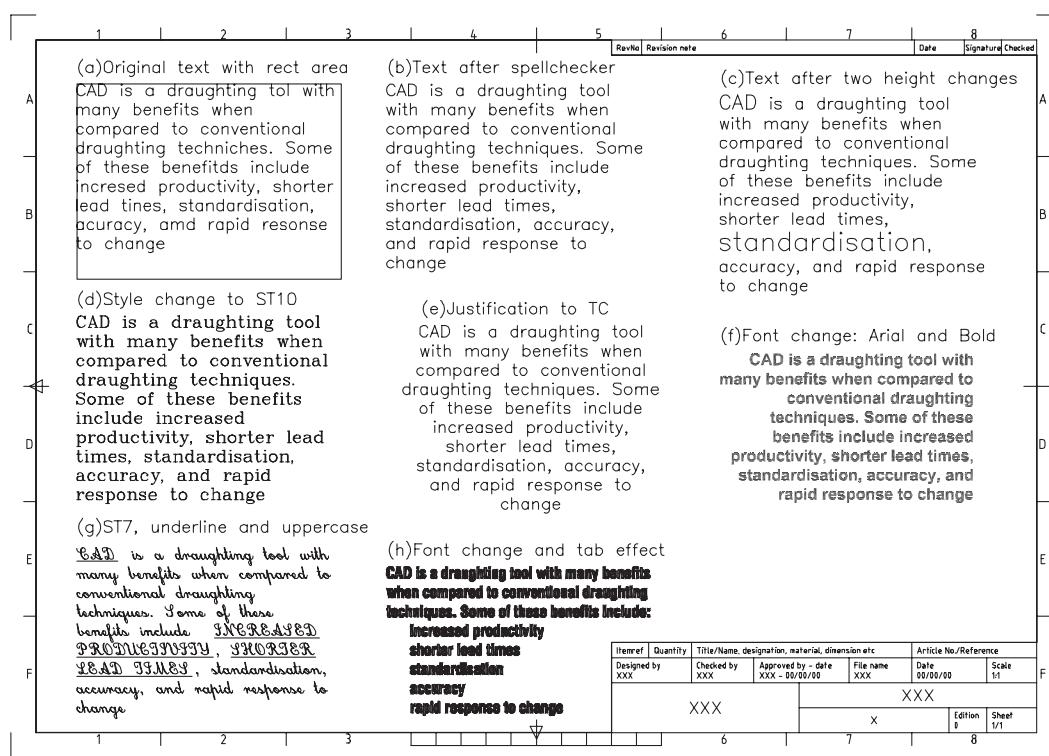

Figure 13.9 Editing multiline text.
- 5 Figure 13.9(a) displays the entered text.
- c) Figure 13.9(a) displays a rectangular area equivalent to the @115, -85 entered co-ordinates
- 4 The multiline text will be displayed with the correct spelling as Figure 13.9(b).
- 1 To investigate how multiline text can be edited, continue with the created multiline text and refer to Figure 13.9.
text displayed as Figure 13.9(c)
b) right-click-Enter to end command – Figure 13.9(d).
and text displayed as Figure 13.9(e).
a) style ST1, justification top right, highlight text and change font to Arial with Bold effect – Figure 13.9(f)
b) style ST7, justification bottom left, highlight then underlined and UPPERCASE indicated text – Figure 13.9(g)
c) style ST1, justification top left, height 5, highlighted and change font to SWIS721BdCnOulBT and produce tab effect – Figure 13.9(h).